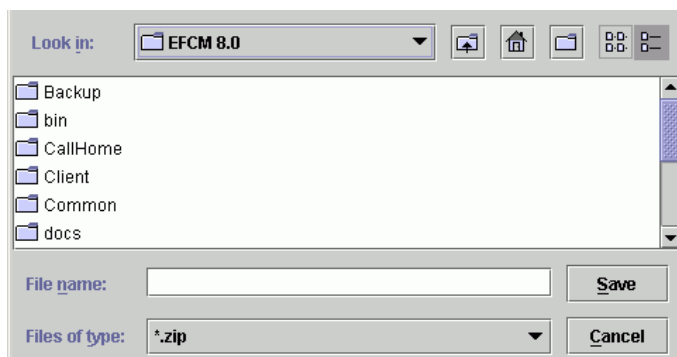

Figure 4-19 Save Data Collection Dialog Box
3. Select the *Data Collection* option from the *Maintenance* menu. The *Save Data Collection* dialog box displays (Figure 4-19).